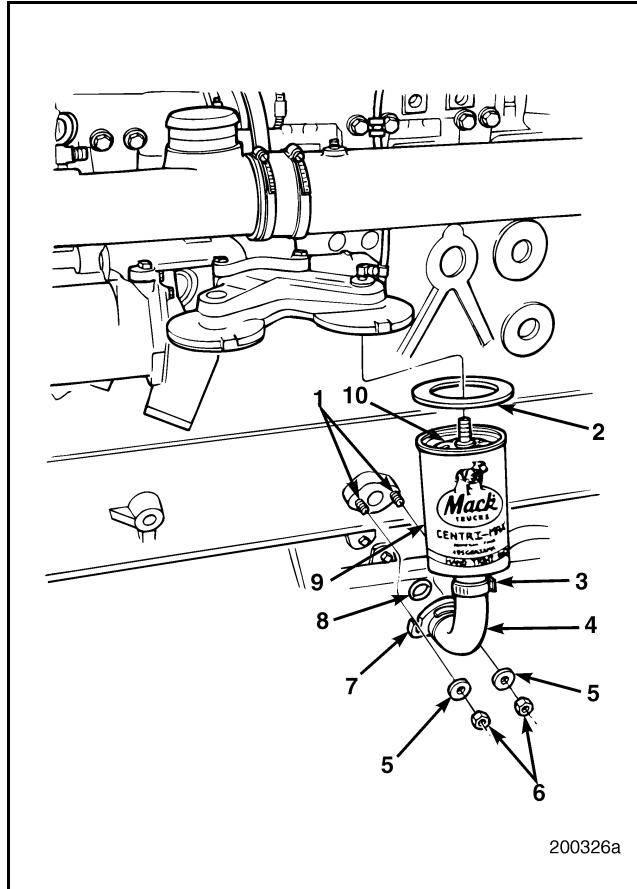

Figure 78 — Centri-Max[®] Housing
4. If equipped with the earlier Centri-Max[®] design oil filter (Figure 78):
- a. Loosen drain hose assembly (4) from the Centri-Max[®] filter housing assembly by loosening hose clamp (3) at the Centri-Max[®] housing.
- b. Remove two nuts (6) and two washers (5) from studs (1) securing hose adapter (7) at the cylinder block. Discard O-ring (8).
- c. Remove drain hose assembly (4).
- d. Using tool J 24783, remove the centrifugal oil filter housing (9).